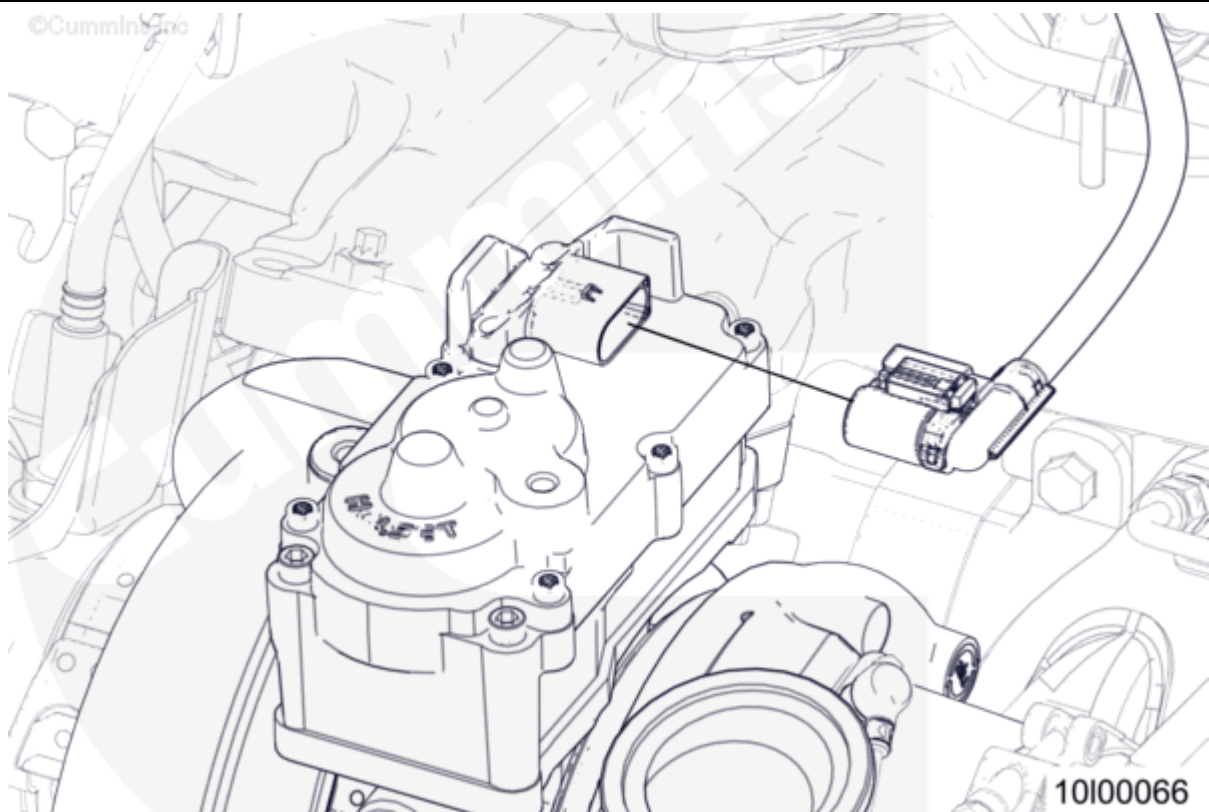

Figure 3, VGT Actuator Disconnect.
3. Disconnect VGT actuator from engine wiring harness. See Figure 3 above.